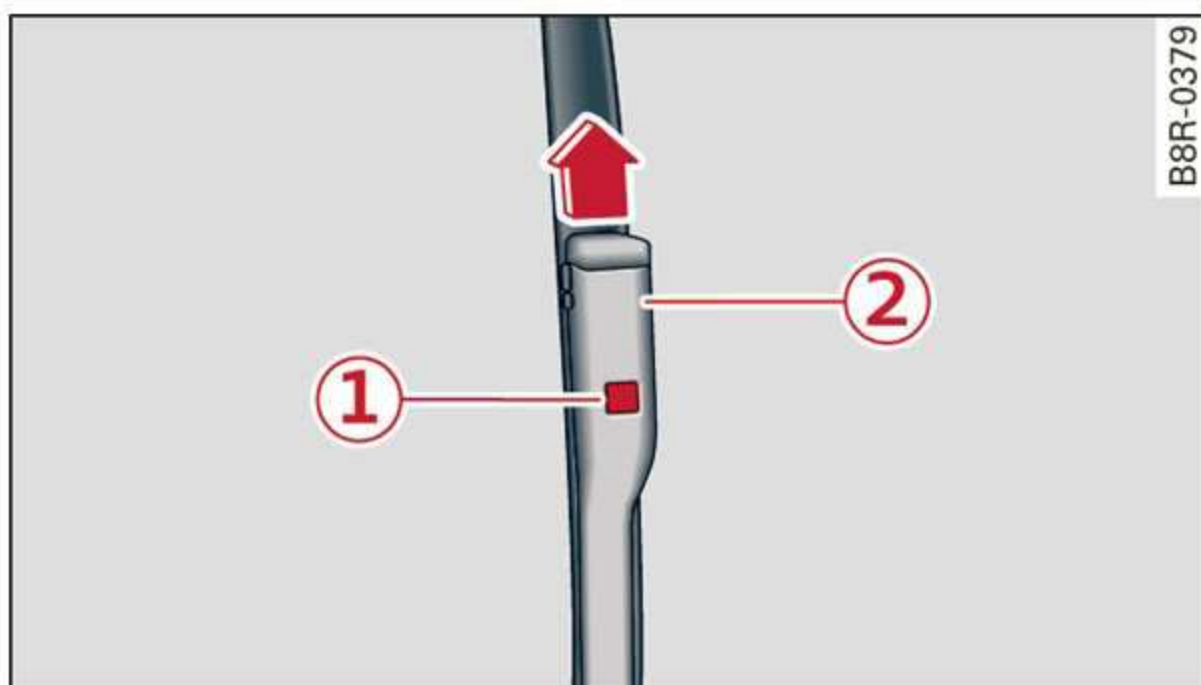

Fig. 45 Removing windshield wiper blades
- ▶ Press the locking knob ① ⇒ fig. 45 on the wiper blade. Hold the wiper blade firmly.